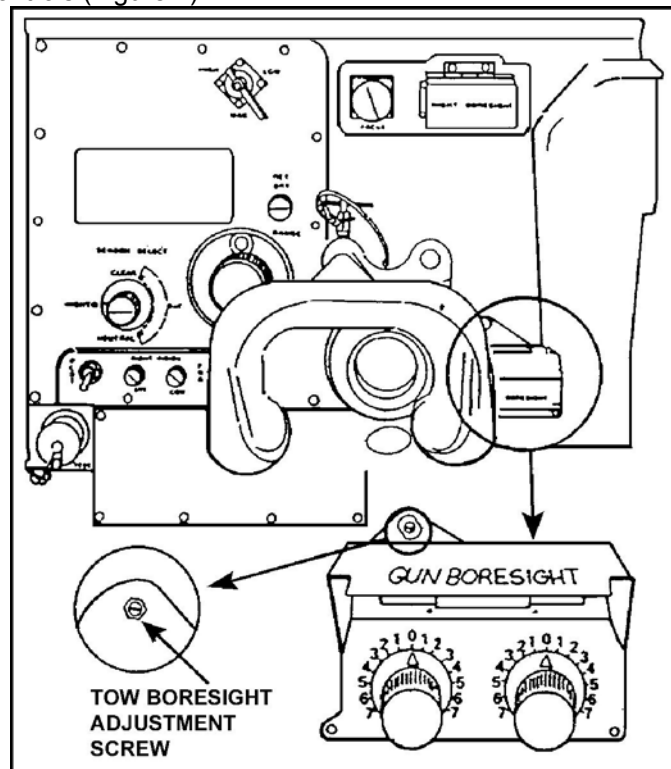

Figure 1. Daysight controls.
2. Set the daysight controls (Figure 1).